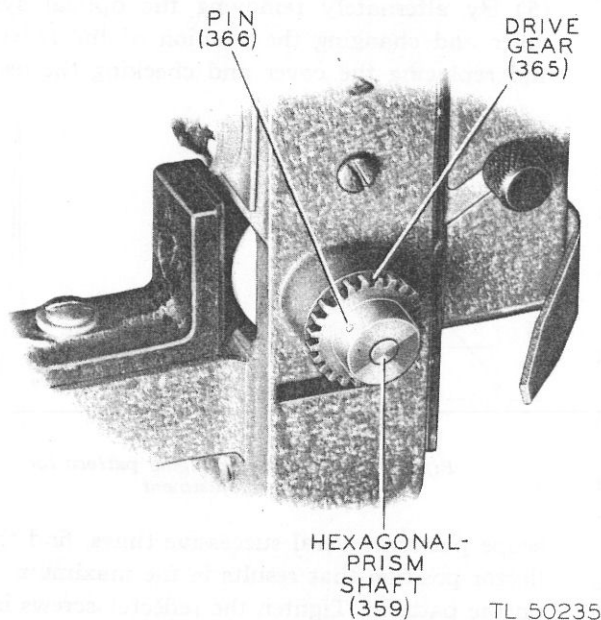

Figure 34—Optical system, showing drive gear
- (1) White-red wire to terminal No. 1 (lower terminal).
- (2) Cable wire to terminal No. 2 (upper terminal—left as viewed from rear).
- (3) Cable shield wire to terminal No. 3 (upper terminal—right as viewed from rear).
c. Hexagonal prism and drive gear. If either the hexagonal-prism assembly (359) or the drive gear (365) is replaced, drill and ream the two parts to match for insertion of a tapered locking pin (366). To do this, assemble the prism and shaft, bearings, bearing retainers, spacer washer, and drive gear (hub side out) in place on the optical housing (fig. 34). Adjust the position of the gear